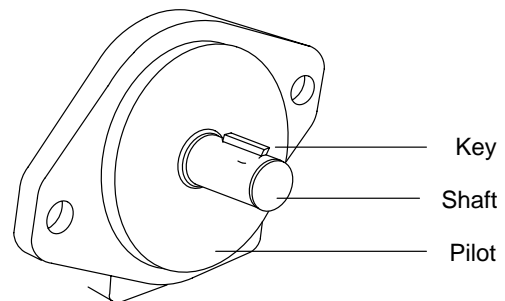

Figure 6.
1. Direct Mounting – A pilot on the pump mounting flange (Figure 6) assures correct mounting and shaft alignment. Make sure the pilot is firmly seated in the accessory pad of the power source. Care should be exercised in tightening the mounting screws to prevent